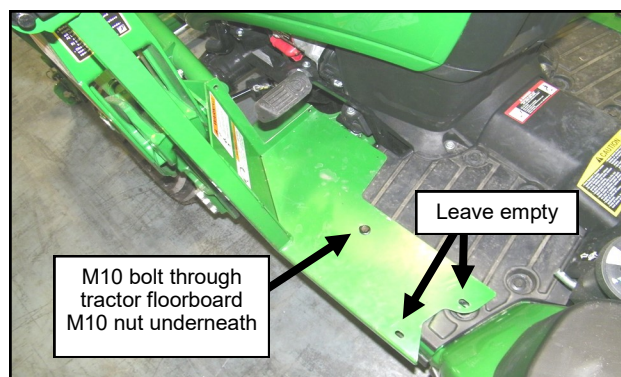

Fig. 3.1 (Place A-Pillar on Tractor)
- 3.1** Set the left A-pillar onto the floor mat and loosely bolt it down with one bolt through the front slot only. See figure 3.1. Tighten the bolt snug to stabilize the A-Pillar; the bolts will be fully tightened at a later step once the rest of the cab has been assembled.